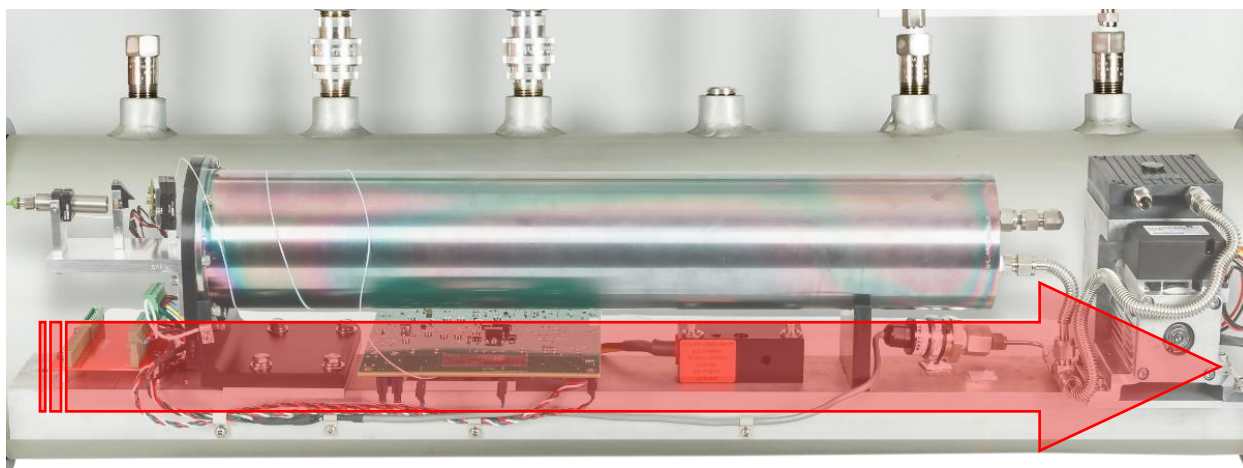

Figure 51: Initial Sliding Direction
10. Carefully slide the component rail out of the enclosure towards the side with the vacuum pump as indicated in Figure 51. The component rail will only slide as much as the attached tubing and fittings will allow, approximately 6-8 inches (15 – 24cm).